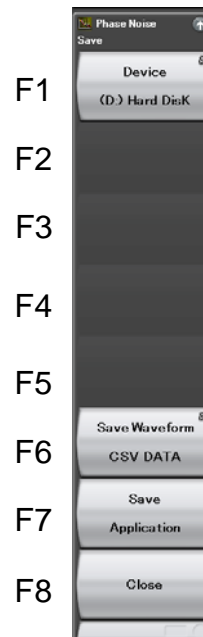

Figure 3.7-1 Save menu
1. Press **Save** in the Phase Noise screen to display the Save menu shown in Figure 3.7-1.